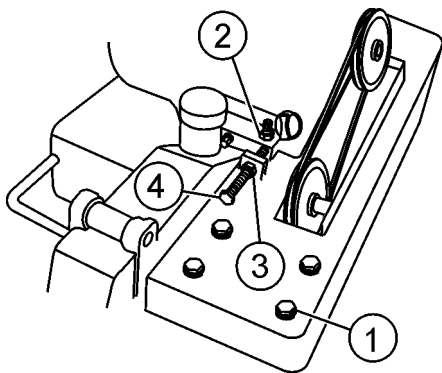

Figure 9. V-Belt Tension Adjust
1. With V-belt guard removed, loosen the 4 engine mounting hex screws. (items 2 Figure 9)
2. Loosen locking nut on the V-belt tension adjuster, (3).
3. Tighten the adjusting hex screw (4) while holding the engine in place to maintain pulley alignment. (a screwdriver can be used as a lever at the rear belt guard mounting boss to hold the back of the engine while adjusting V-belt tension.)
4. Re-tighten the locking nut (3).
2. Loosen the 4 engine mounting hex screws. (item 2, Figure 9)
3. Loosen locking nut on the V-belt tension adjuster (item 3, Figure 9). Loosen the tension on the V-belt by turning the tension adjuster hex screw (item 4, Figure 9).
5. Loosen the 4 arbor shaft hex screws, (item 1, Figure 9).